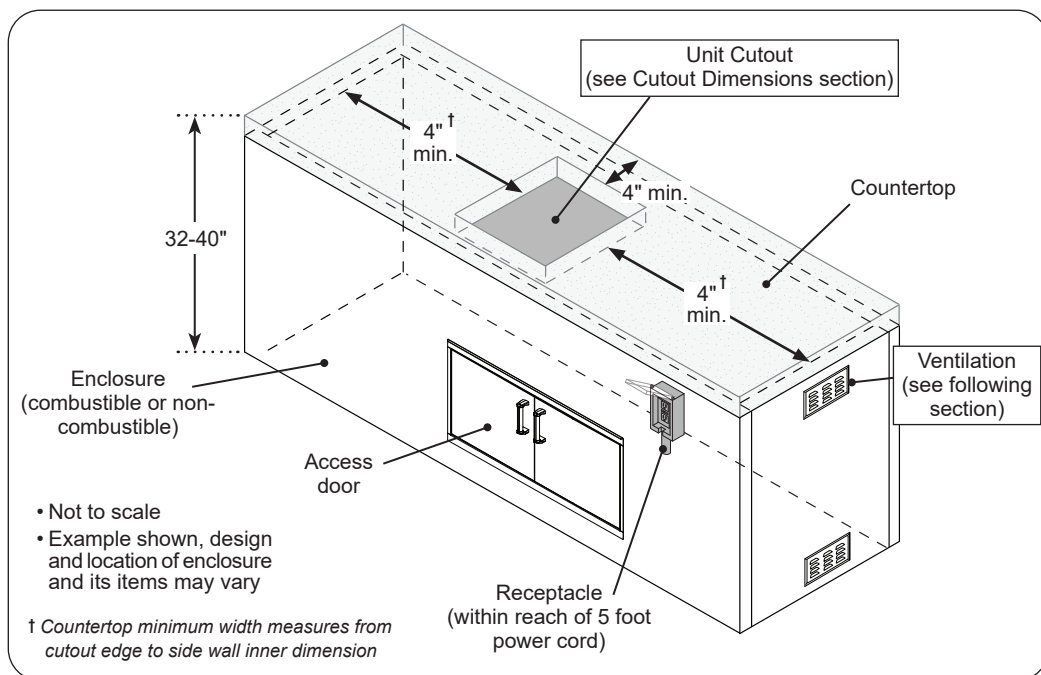

Fig. 12-1 Enclosure specifications
The enclosure can be constructed according to your individual preference, while following all guidelines found in this manual. **The enclosure MUST (see Fig. 12-1):**
- have the minimum dimensions specified in Fig. 12-1
- meet all requirements found in Fig. 12-1 and the following sections